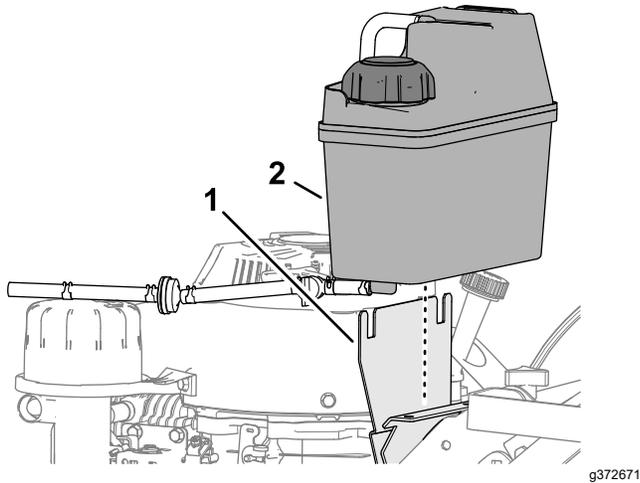

Figure 39
1. Align the tabs of the fuel tank with the plate of the tank-mounting bracket (Figure 39).